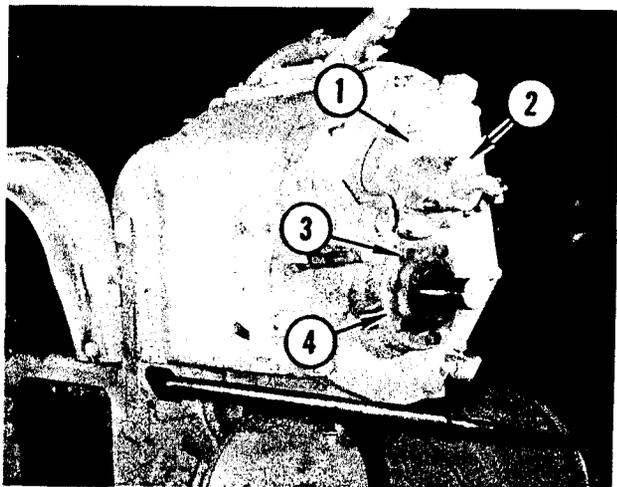

FIGURE 43. OIL CAP & BEARING COVER REMOVAL
Refer to Figure 43. Remove five capscrews and lockwashers (1). Remove oil cap (2) and gasket. Remove five hexhead capscrews (3) and one countersunk Allenhead setscrew. Remove oil seal retainer (4). Remove snap ring from upper shaft bearing. Lower shaft bearing will come off with cover.